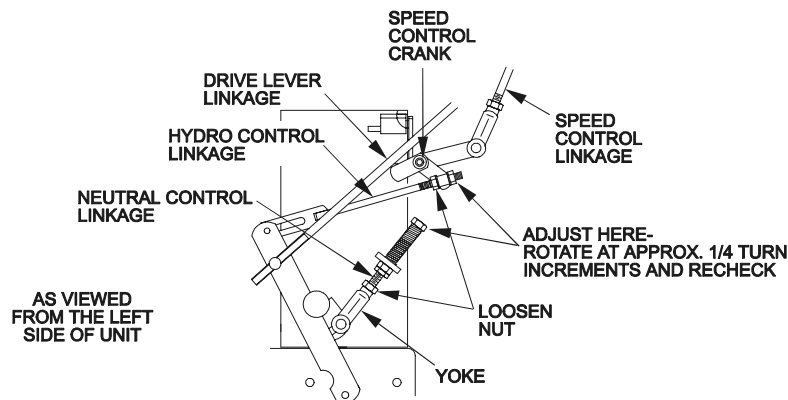
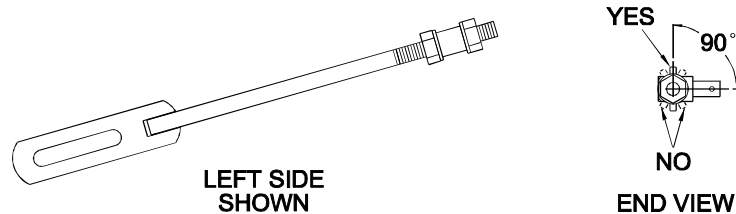

FIGURE 18
FIGURE 19
2. Move the speed control lever (located on the console) to the full forward position and check the orientation of the tabs on the ends of the speed control crank (Figure 18). These tabs should be pointing straight down at the 6 o'clock position or slightly forward. Adjust the threaded yoke at the bottom of the speed control linkage (See Figure 18) until the tabs are positioned correctly.
4. Loosen the nut against the neutral control linkage yoke as shown in Figure 18.
2. Loosen the front nut on **left** hydro control linkage as shown in Figure 18. Turn the rear control linkage adjusting nut counter-clockwise until wheel rotates forward. Turn the rear nut of left control linkage clockwise 1/4 of a turn at a time, stopping to move the speed control forward and back to neutral, until left wheel stops rotating forward. Turn the rear nut an additional 1/2 turn and tighten the front nut making sure not to put a bind on the linkage. Make sure flat part of linkage is perpendicular to pin part of swivel. See Figure 19.